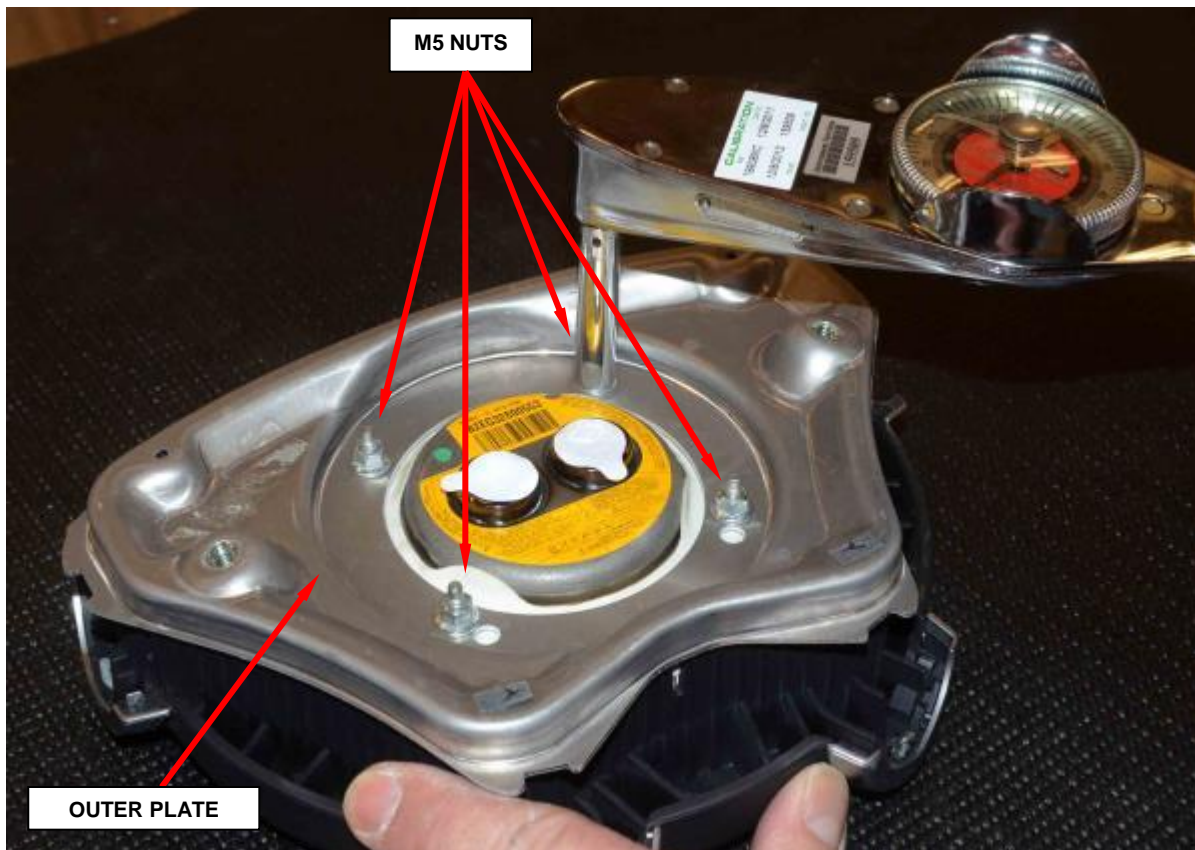

Figure 13 – Driver Airbag Retrofit Complete
17. When installing the original four M5 nuts that hold the outer plate, use hand tools and tighten the nuts to 44 in. lbs. (5 N·m) (Figure 13).
18. Driver airbag retrofit is complete (Figure 13).